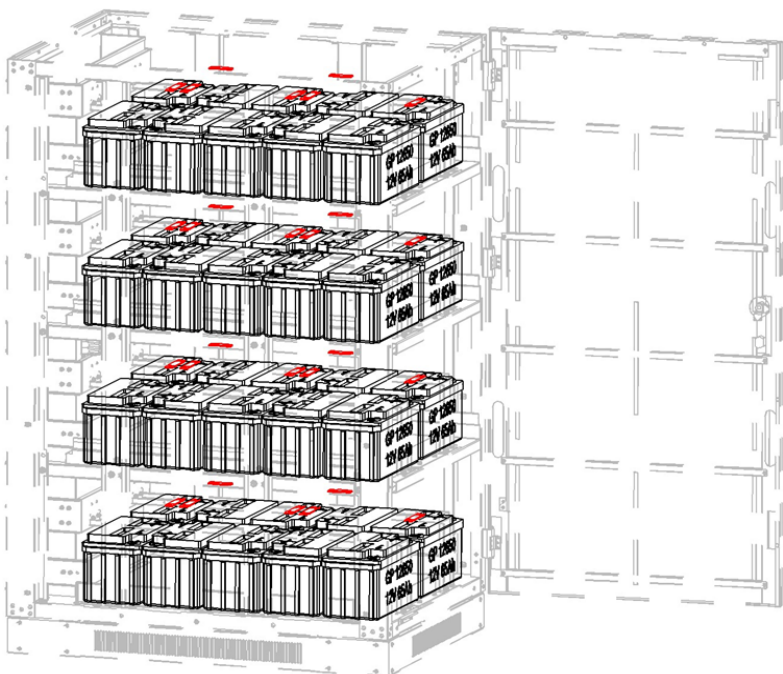

Figure 5-40A
9. Model BP240V65L-NIB: Install copper bus bars (13 pieces) between adjacent batteries and the battery insert bolts/posts (Figures 5-40A and 5-40B).